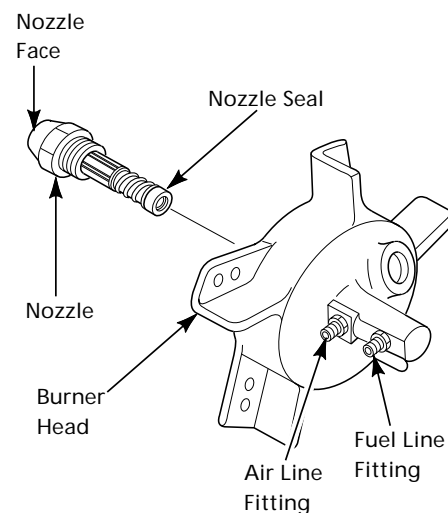

Figure 17 - Removing Nozzle
8. Carefully remove nozzle from burner head using 5/8" socket wrench (See Figure 17).